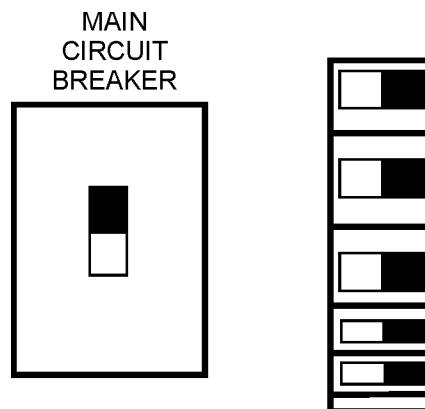

Figure 55. Main, Aux. and GFCI Circuit Breakers (ON)
18. Place the **main**, **GFCI**, and **aux.** circuit breakers in the "ON" position (Figure 55).